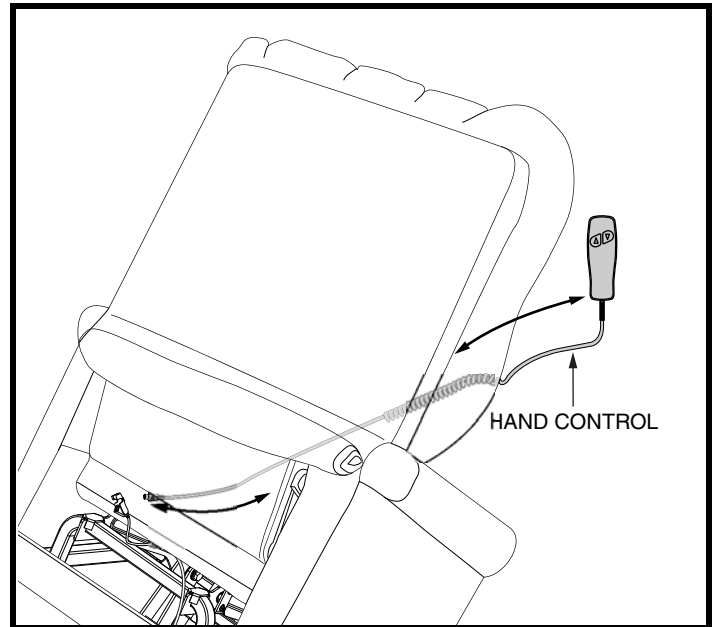

Figure 4. Removing/Threading the Hand Control
7. Remove and discard the hand control by pulling it straight through the front of the lift chair. **See figure 4.**
13. From the front of the lift chair, thread the replacement hand control through the center of the cushion area, so that the hand control cable is visible from the back of the chair. **See figure 4.**